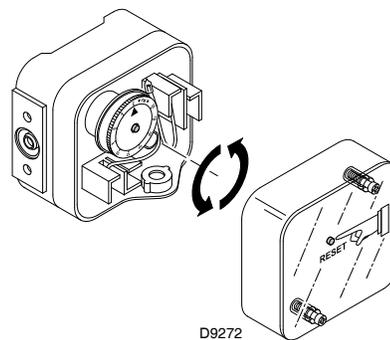

Fig. 43
- Adjust the maximum gas pressure switch (Fig. 43) to the end of the scale.
Adjust the maximum gas pressure switch (Fig. 43) after having performed all other burner adjustments with the maximum gas pressure switch set to the end of the scale.